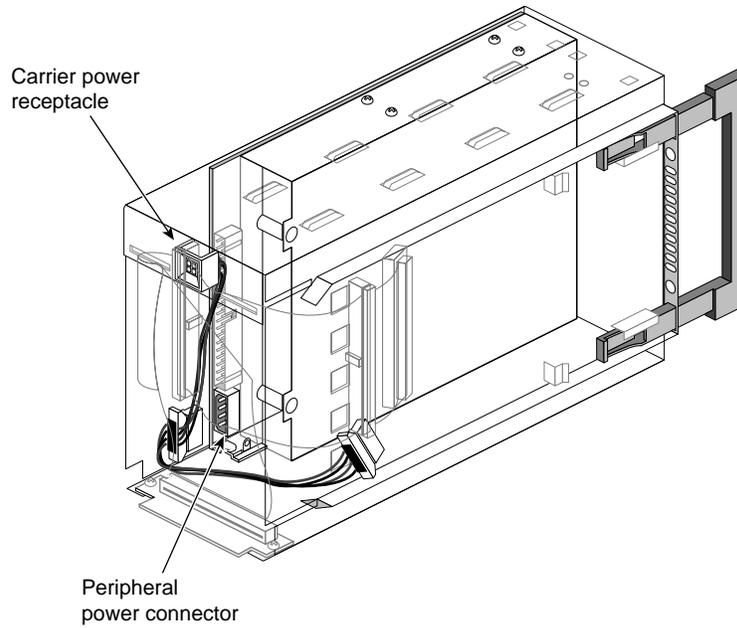

Figure 2-10 Attaching a Power Connector to a 5.25-inch Drive
4. Attach one of the power connectors at the rear of the carrier to the drive. Use whichever connector fits conveniently for the position of the drive's power receptacle. See Figure 2-10.